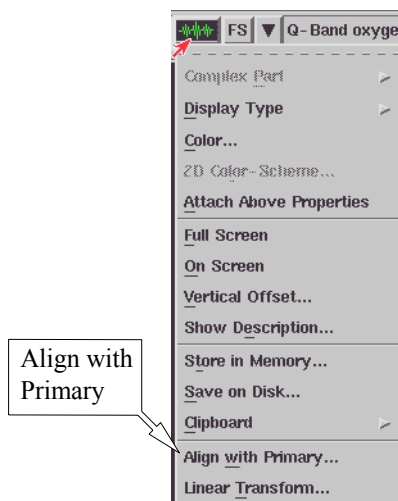

Figure 3-22 Aligning with the primary dataset.
7. **Make a hard copy.** Click on the **Secondary Properties Menu** and click **Align with Primary...** (See Figure 3-22.)